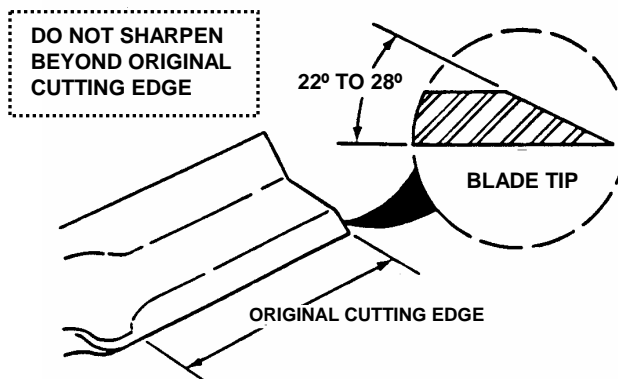

FIGURE 4.17
7. If blade is in good condition, sharpen at 22 to 28 degrees. DO NOT sharpen beyond existing cutting edge. See Figure 4.17.
1. Remove blade(s). See Figure 4.17. Replace blade(s) if it shows signs of excessive wear or damage. See chart below for replacement